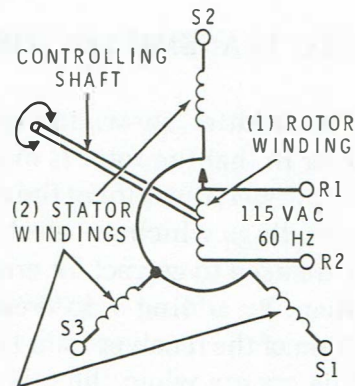

Figure 8-2
The synchro transmitter, shown schematically in Figure 8-2, is sometimes referred to as a synchro generator. The rotor (1) consists of a single winding, and the stator (2) is made up of three windings displaced 120°. The rotor is excited by an AC source and is usually coupled directly or indirectly, through gears, to a controlling shaft.